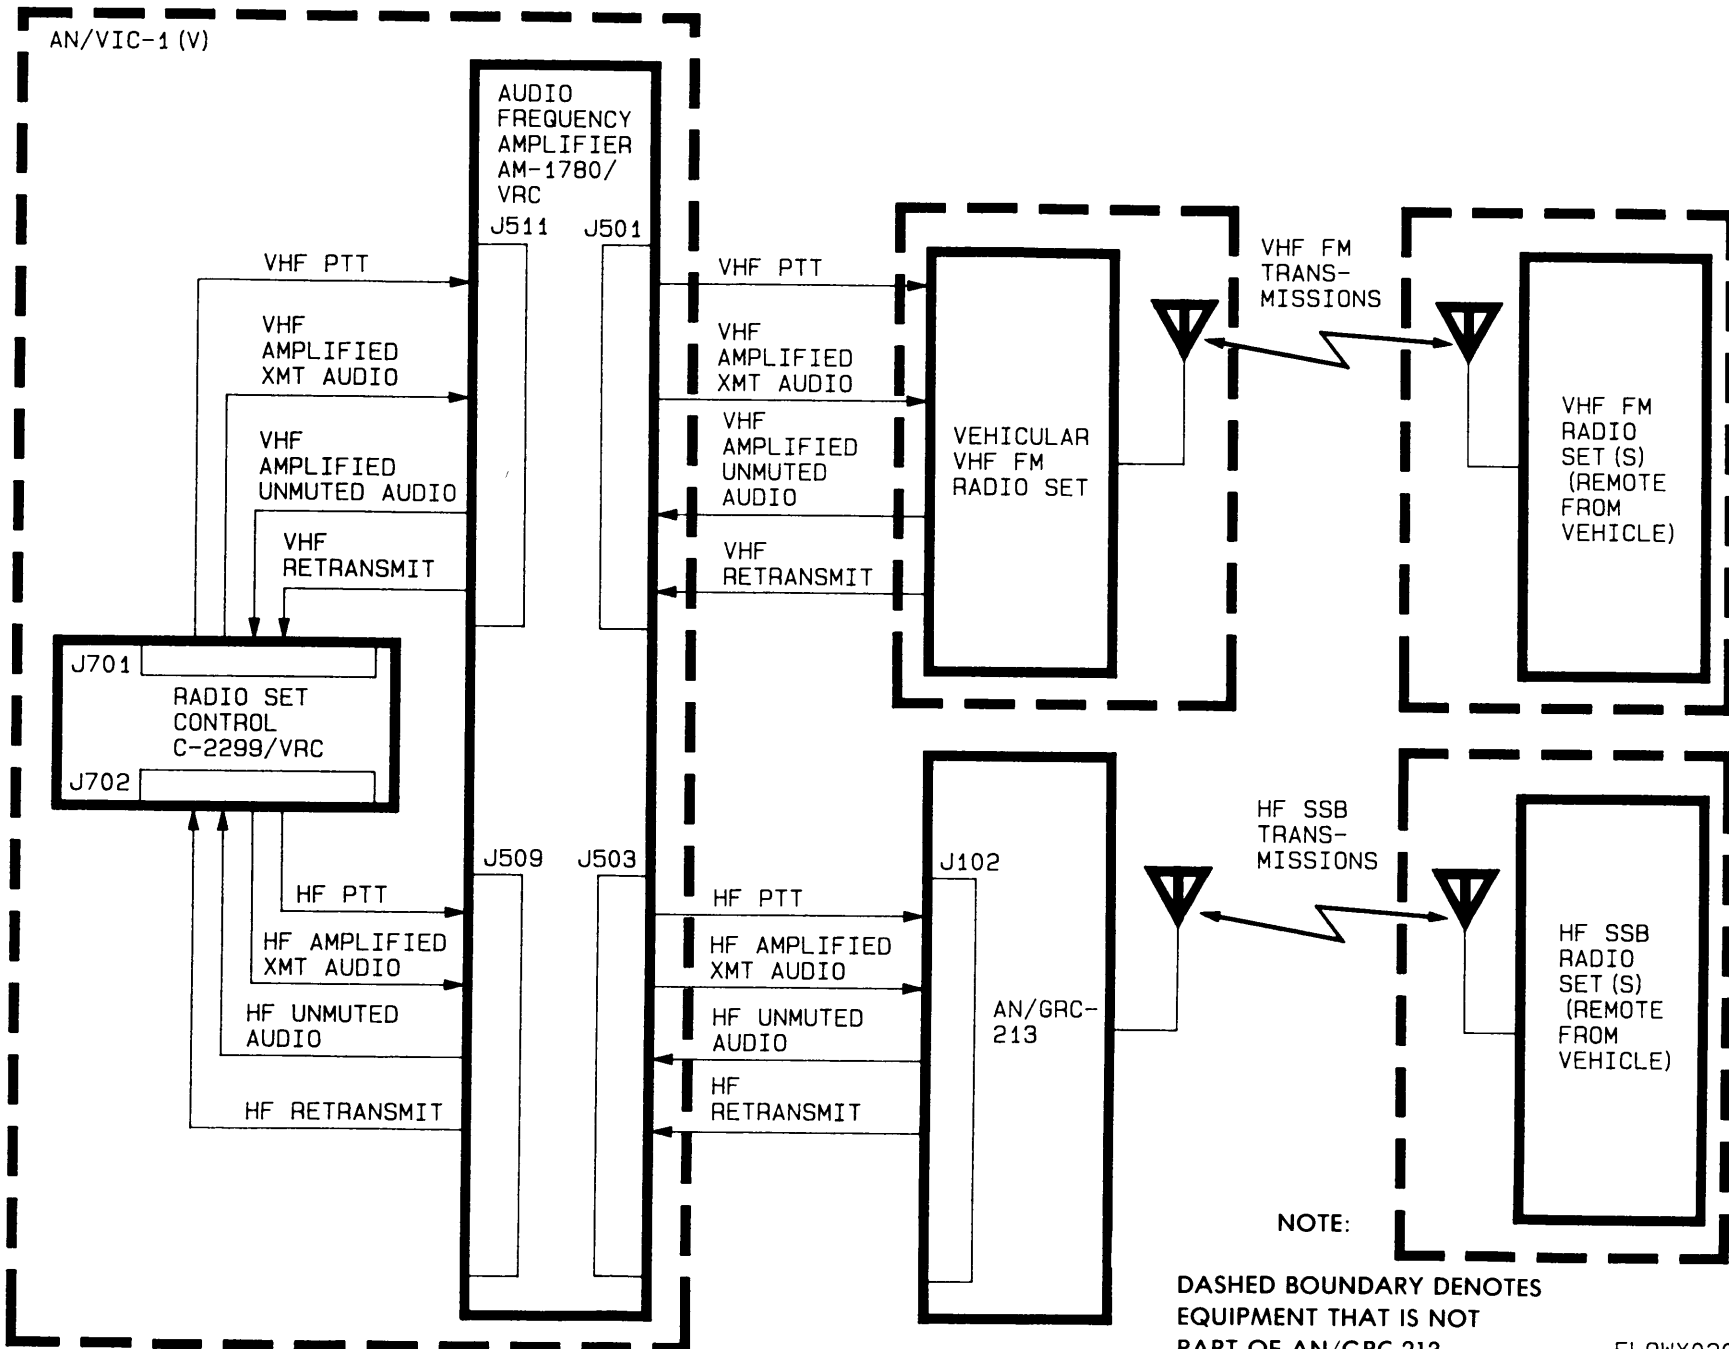

Figure 4-3. Retransmit Operation Block Diagram
b. Retransmit Operation. (See fig. 4-3). The AN/GRC-213 can be interfaced with the AN/VIC-1(V) and a VHF FM radio set, as illustrated in figure 4-3, to make retransmission possible. Retransmission allows automatic retransmission in the vhf band of received HF SSB signals and in HF SS6 of received VHF FM signals. The following paragraphs contain the functional description of retransmit operation.
(1) *Retransmission as VHF.* When retransmitting HF SSB signals as VHF FM signals, the AN/GRC-213 first receives the HF SSB signals transmitted by remote HF SSB radio set(s). If squelch is removed, the HF RETRANSMIT signal at ground potential is output by the amplifier-power supply. This HF RETRANSMIT signal is routed through Audio Frequency Amplifier AM-1780/VRC and Radio Set Control C-2299/VRC and is then called the VHF PTT Signal. The VHF PTT signal is sent back through Audio Frequency Amplifier AM-1780/VRC and input to the vehicular VHF FM radio set. The ground potential on VHF PTT puts the vehicular VHF FM radio set in the transmit mode. The HF SSB signals received by the AN/GRC-213 are sent to the AN/VIC-1(V) as HF UN MUTED AUDIO. These audio signals are routed through the two AN/VIC-1(V) units and provided to the VHF FM radio set as VHF AMPLIFIED XMT AUDIO. In the VHF FM radio set, these audio signals are attenuated, modulated, and transmitted at a vhf frequency. The transmitted VHF FM signals are received by remote VHF FM radio set(s).
(2) *Retransmission as HF SSB.* When retransmitting VHF FM signals as HF SSB signals, the vehicular VHF FM radio set receives the VHF FM signals transmitted by the remote VHF FM radio set(s). If squelch is removed, the VHF RETRANSMIT signal at ground potential is output by the vehicular VHF FM radio set. This VHF RETRANSMIT signal is routed through Audio Frequency Amplifier AM-1780/VRC and Radio Set Control C-2299/VRC and is then called the HF PTT signal. The HF PTT signal is sent back through Audio Frequency Amplifier AM-1780/VRC and input to the AN/GRC-213 amplifier-power supply. The ground potential input on HF PTT puts the AN/GRC-213 in the transmit mode. The VHF FM signals received by the vehicular VHF FM radio set are sent to the AN/VIC-1(V) as VHF AMPLIFIED UNMUTED AUDIO. These audio signals are routed through the AN/VIC-1(V) units and provided to the AN/GRC-213 as HF AMPLIFIED XMT AUDIO. The HF AMPLIFIED XMT AUDIO signals are input to the AN/GRC-213 to be attenuated, modulated, and transmitted at the selected HF frequency. The transmitted HF SSB signals are received by remote HF SSB radio set(s).